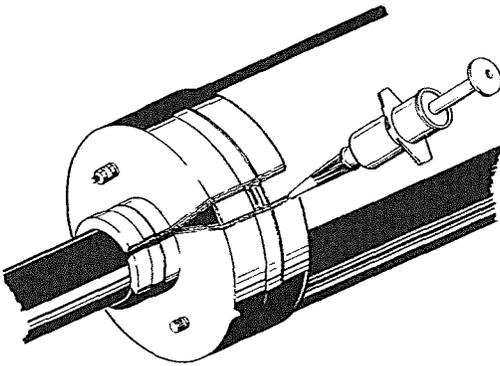

Figure 33. Apply Adhesive
7.36 Apply a bead of adhesive onto both surfaces of split end cap and bushing, if present. (Figure 33)